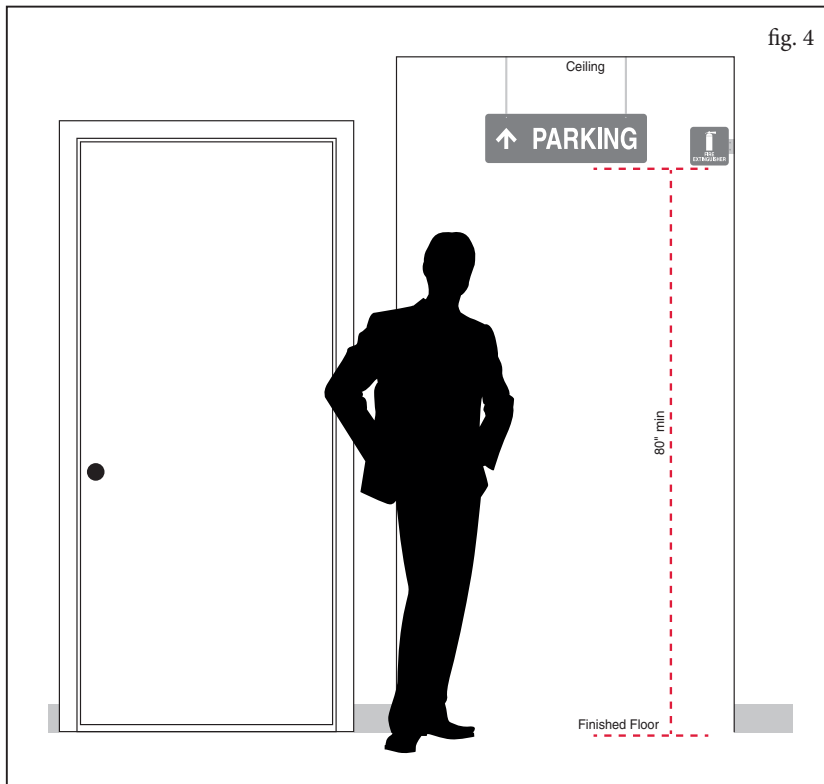

fig. 4
2. Determine the mounting height for your signs. The ADA requires signs that project from the wall (perpendicular signs) or ceiling (overheads) to have a clearance of 80" from the finished floor to the bottom of the sign. Signs should not interfere with or block the function of any doors, emergency equipment, or sprinklers. (see fig. 4)